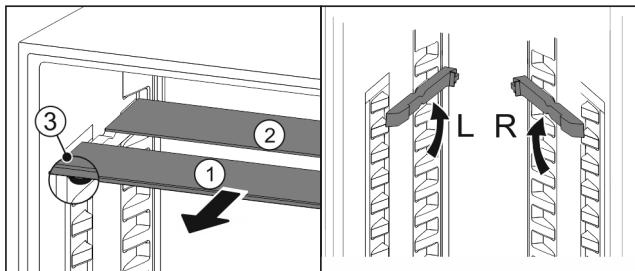

Fig. 88
► Pull the glass panels out Fig. 88 (1) from the front, one at a time.
► The glass panel Fig. 88 (1) and trim strip are at the front.
► The stops Fig. 88 (3) point down.